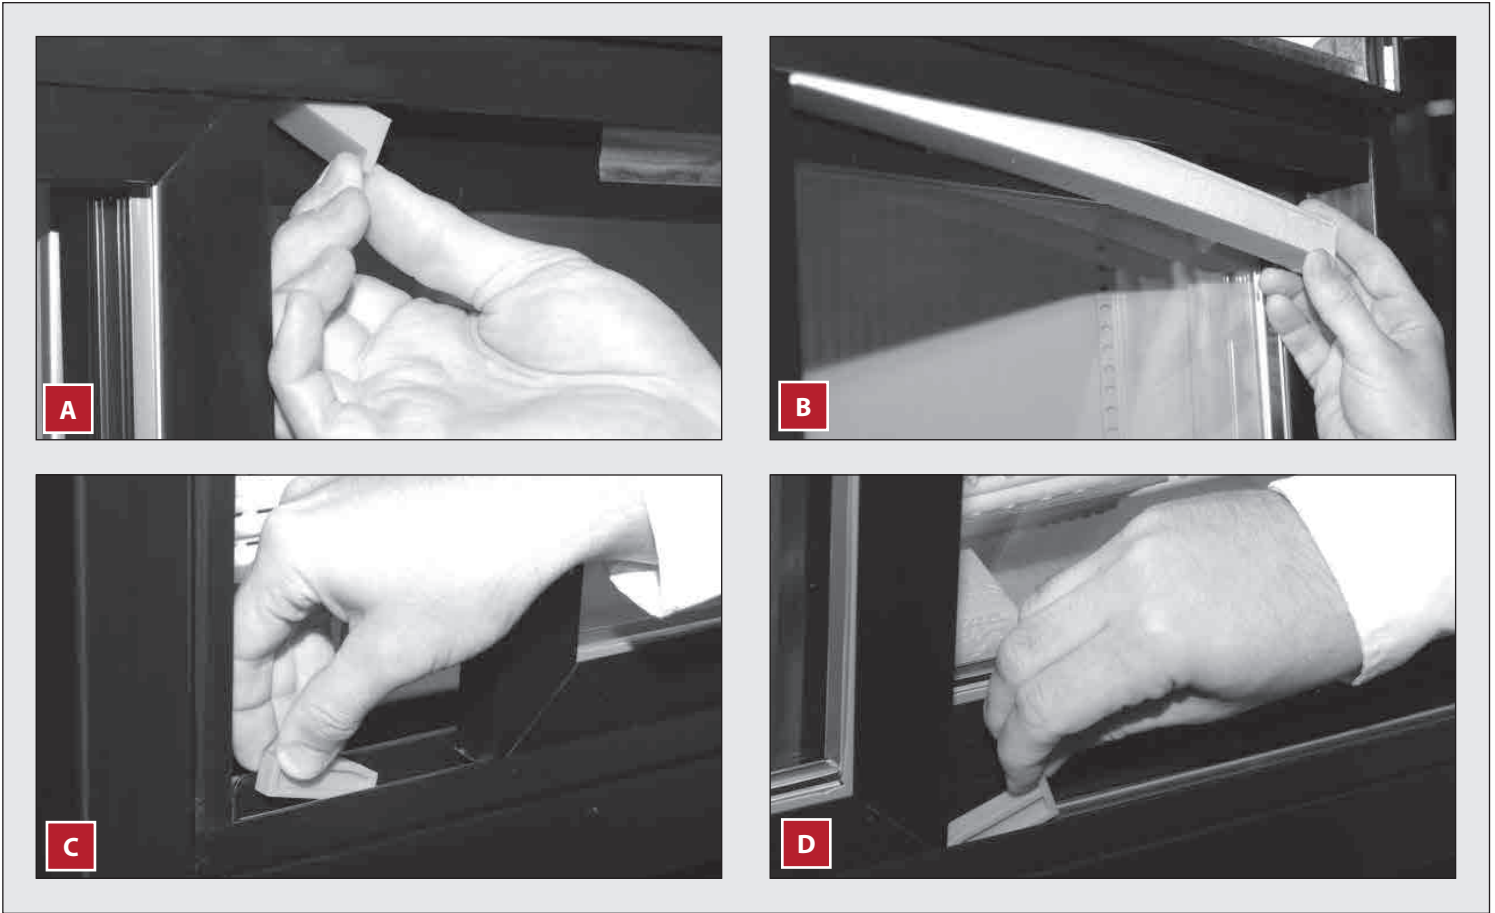

Fig. 3. Glass slide door shipping block locations. Remove if so equipped and do not discard
**NOTICE >** **DO NOT** remove the shipping bracket (glass swing doors; fig. 2) or the shipping blocks (glass slide doors; fig. 3) until the appliance is installed in its final location. **Do not discard;** use the bracket/blocks when next moving the appliance.